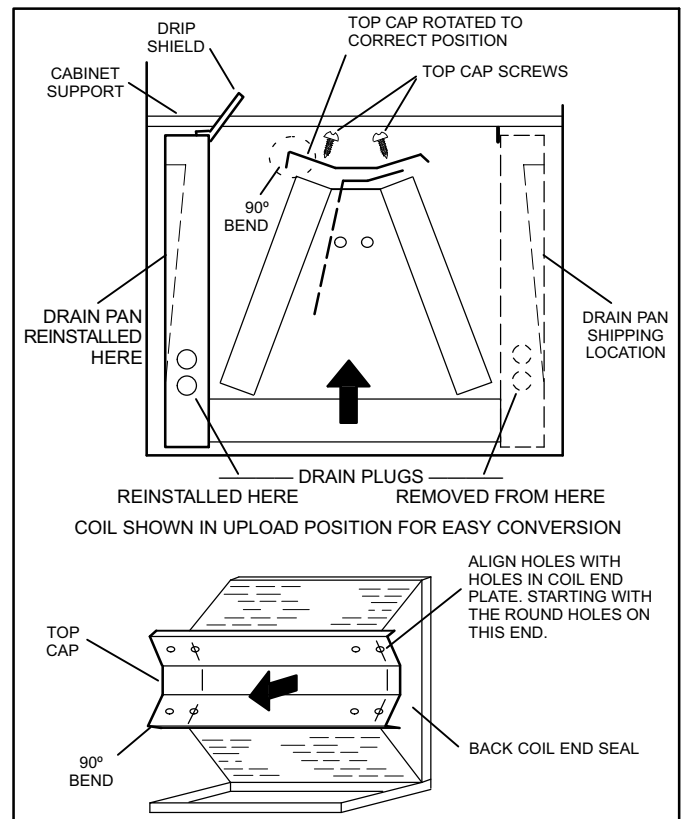

Figure 4. Field Modification for Left-Hand Discharge
5. Remove screws from top cap. Remove horizontal drip shield screw located in the center of the back coil end seal as illustrated in figure 4 on page 5.
8. Rotate top cap 180° front-to-back and align with unused screw holes. Holes must align with front and back coil end plates. The top cap has a 45° bend on one side and a 90° bend on the other. **The 90° bend must be on the same side as the horizontal drain pan** as illustrated in figure 4 on page 5.
9. From the up-flow position, flip cabinet 90° to the left and set into place. Replace blower assembly. Secure coil in place by bending down the tab on the cabinet support rail as illustrated in figures 4 and 5.